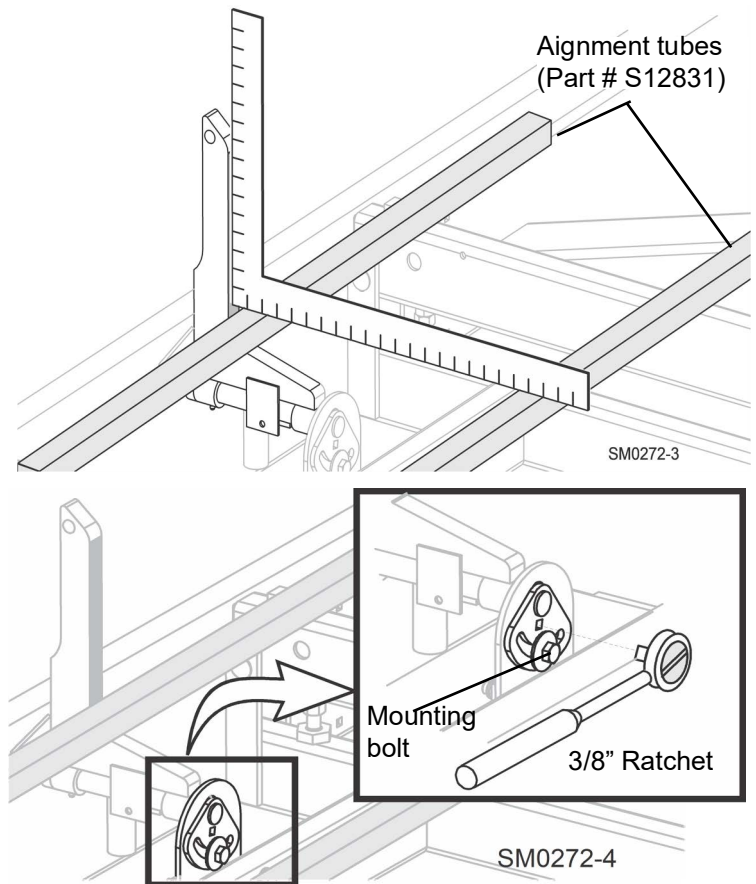

FIG. 8-14
13. Use a 3/8" ratchet to rotate the pin until the side support is square to the bed. See FIG. 8-14.